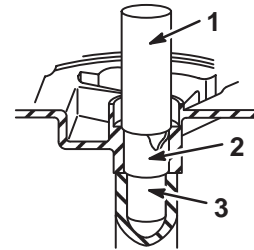

Fig. 142 – Removing Bearing
3. Press bearing out of cylinder, Fig. 142.